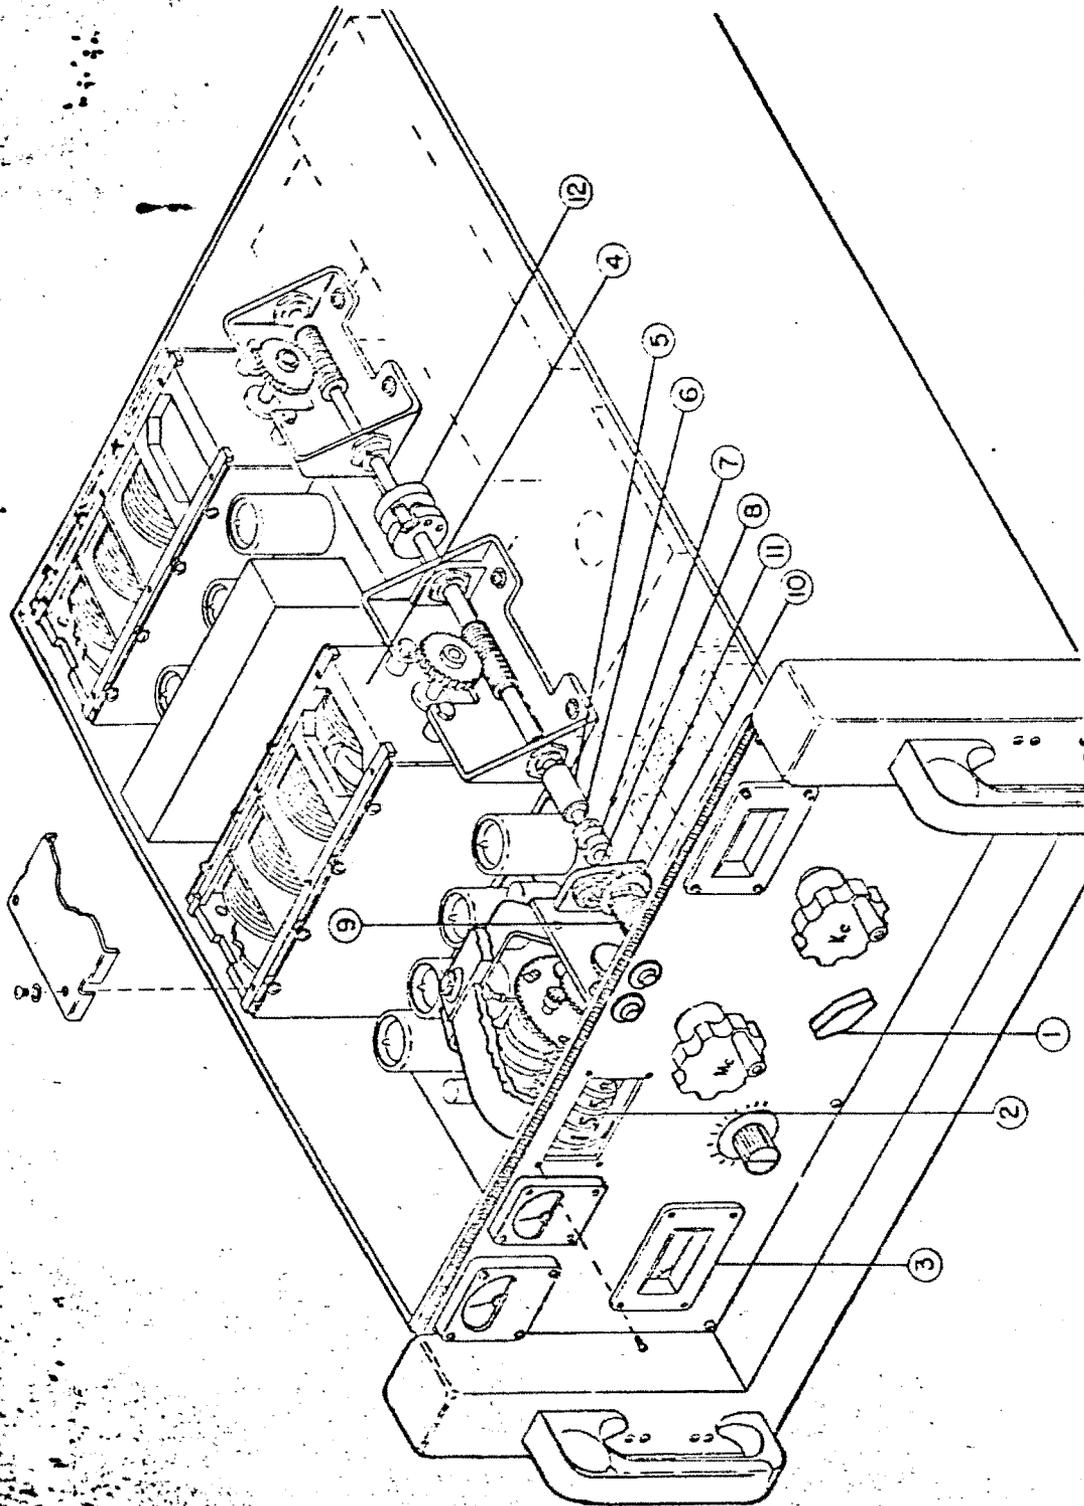

Figure 6-8. Countermeasures Receiver R-1125/FLR, Main Tuning Mechanism
Step 2. Install the flexible coupling (7, figure 6-8) on the tuning shaft. Tighten the two Allen setscrews lightly; a later adjustment is required.
Step 5. Carefully mate the two halves of the flexible coupling (7, figure 6-8). Hold the counter in place and crank the TUNING (Mc) knob several times slowly in each direction, and note any misalignment between the counter shaft and the variable capacitor shaft. Correct the position of the counter on the chassis until the two shafts are concentric.
Step 3. Loosen the hexagonal screw locking the small stop gear (8, figure 6-8) and adjust the TUNING (Mc) knob for a counter reading of 1482.
Step 4. Loosen the two setscrews at the counter shaft end of the flexible coupling (7, figure 6-8). Mate the coupling halves and tighten the setscrews.